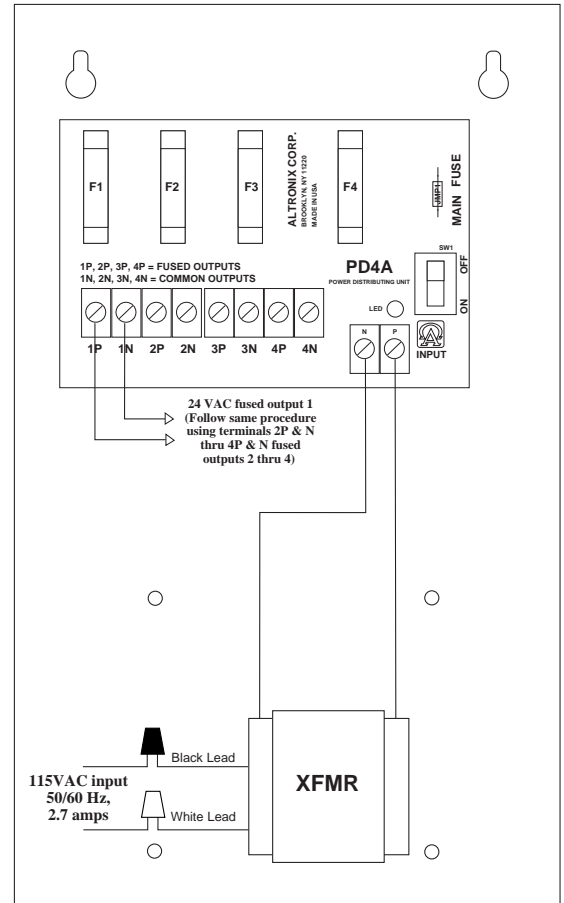

Fig. 1
- Four (4) 24VAC individual fused outputs.
- Output fuses are rated at 3.5 amps / 250VAC (Fig. 1).
2. Slide switch SW1 (Fig. 1) to OFF position.
3. Connect the AC (115 VAC 50/ 60 Hz) to the black and white flying leads of the transformer (Fig. 1).
4. Connect each camera to terminal pairs 1 to 4, marked [1P-1N thru 4P - 4N] (Fig. 1) .
5. Slide switch SW1 (Fig. 1) to ON position.